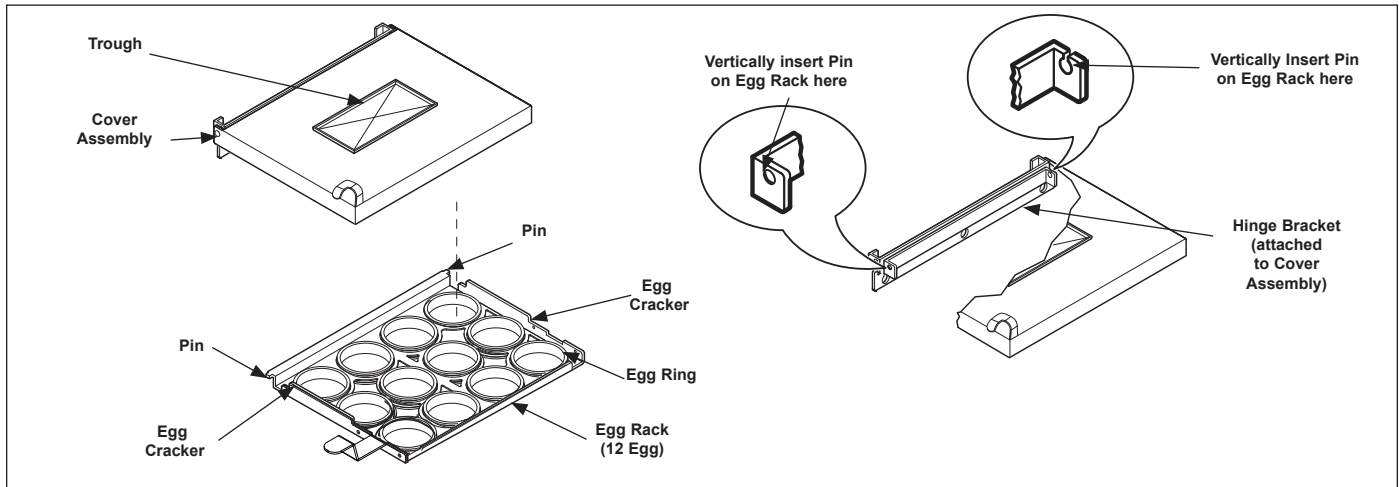

Figure 1. Cover Assembly & Rack Assembly
2. Place Egg Rings into Egg Rack (Figure 1).